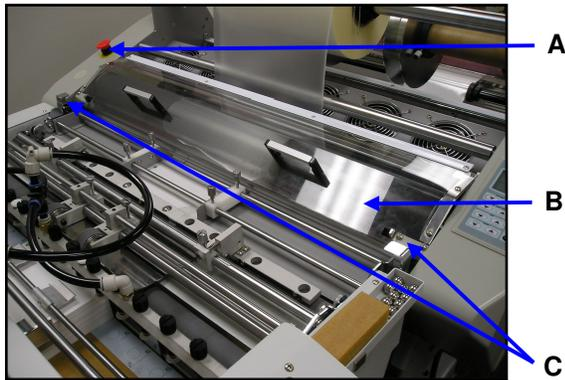

Figure 19
**A. Emergency Stop Switch** (Figure 19)